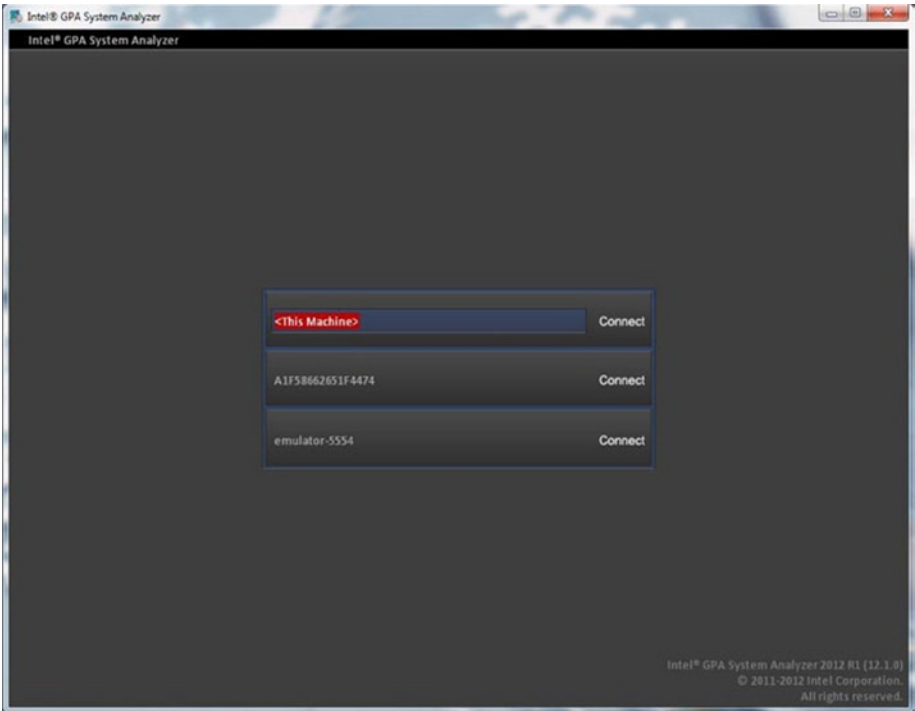

Figure 8-27. Select the Connected Device
5. Find the device you want to connect to and click Connect (see Figure 8-27). The Intel GPA System Analyzer will copy the required components to the target device and generate the list of installed applications. You can interrupt the connection process by clicking Stop.